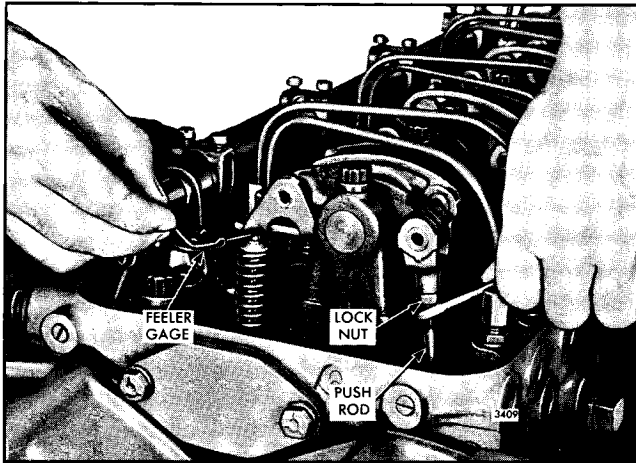

Fig. 2 - Adjusting Valve Clearance
4. Place a .027" feeler gage, J 9708, between the end of one valve stem and the rocker arm bridge, Fig. 2. Adjust push rod to obtain a smooth pull on the feeler gage.